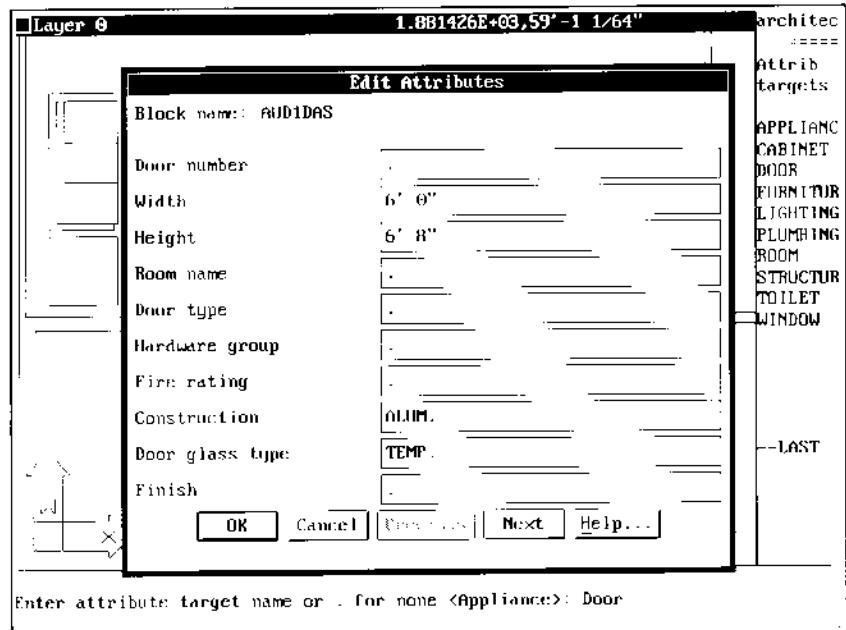

Figure 8.
5. The Edit Attributes dialog box then opens as the Enter Attributes dialog box, with the default attribute values for Width, Height, Construction and Door glass type as shown in Figure 8.